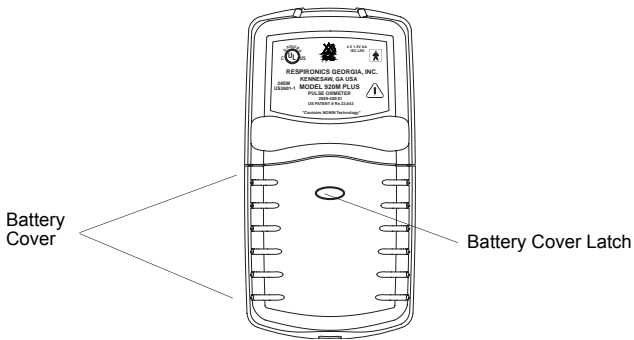

Figure 3. Rear view of the 920M PLUS.
1. Press the battery cover latch (see Figure 3 on page 5), and remove the battery cover on the bottom of the 920M PLUS.